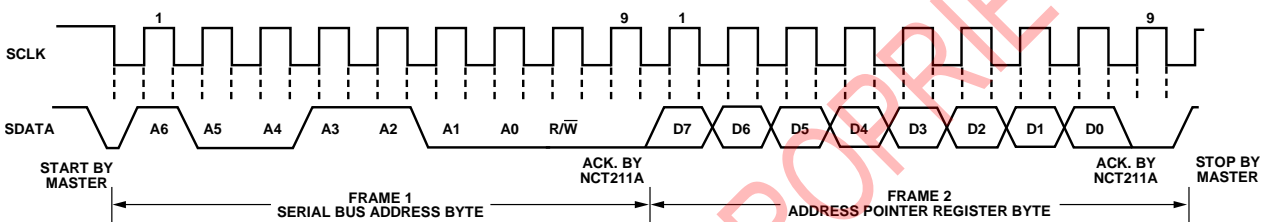
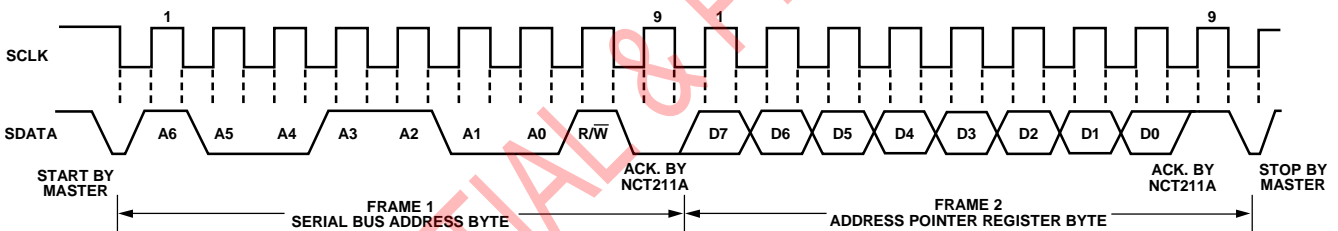

Figure 8. Writing to the Address Pointer Register Only
Figure 9. Reading from a Previously Selected Register
- If the address pointer register value of the NCT211A is unknown or not the desired value, it is first necessary to set it to the correct value before data can be read from the desired data register. This is done by writing to the NCT211A as before, but only the data byte containing the register read address is sent, because data is not to be written to the register see Figure 8. A read operation is then performed consisting of the serial bus address, R/W bit set to 1, followed by the data byte read from the data register see Figure 9.
- If the address pointer register is known to be at the desired address, data can be read from the corresponding data register without first writing to the address pointer register and the bus transaction shown in Figure 8 can be omitted.